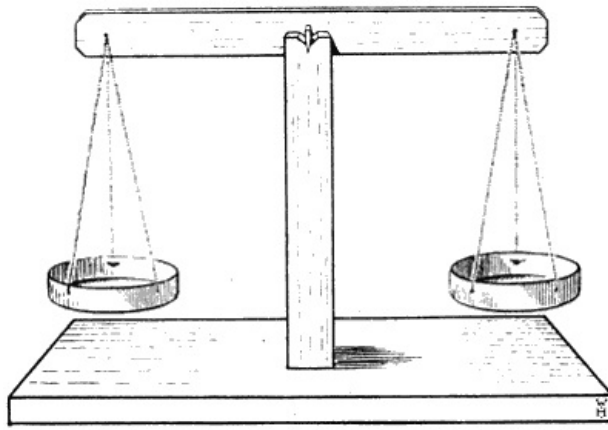

FIG. 72.
*A Pair of Scales.*—Moreover this is a toy which can be made quite accurately with the aid of a few quite ordinary materials. To a pair of scales—or a balance, as it is sometimes called--there are generally these parts: (1) a balancing arm, generally called the beam; (2) an upright standard on which the beam is supported; (3) two scale pins, and chains (or strings) to suspend them; (4) a base board to which the upright standard is fixed. Fig. 72 shows the sort of thing we mean.